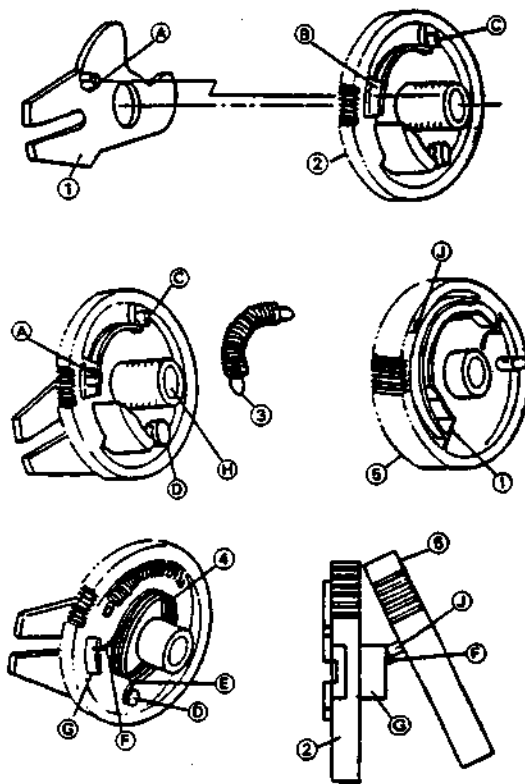

Figure 1-3.
• **Set up of worm wheel assembly (Fig. 1-3)**
1. Put the tab (A) of the drive (1) into the hole (B) of the drive gear (2).
2. Hook both ends of the drive spring (3) onto the tab (A) of the drive arm and tab (C) of the drive gear respectively.
3. hook one end (E) of the drive reciprocating spring (4) onto the tab (D) of the drive gear assembly and mount another end (F) of the drive reciprocating spring onto the tab (G) of the drive gear: this time, hold the end (F) of the drive reciprocating spring by hand.
4. Fit the tab worm wheel gear (5) onto the tag (6) of the drive gear.
5. Using a tapered screwdriver, hook the end (F) of the drive reciprocating spring onto the tab (J) of the worm wheel gear: check that both ends of the drive reciprocating spring have been engaged with the respective tabs of the drive gear assembly.
6. holding the drive gear by hand, turn the worm wheel gear by the other hand counterclockwise. Then tab (C) of the drive gear will be engaged with the hole (I) of the worm wheel gear (5). (The worm wheel gear doesn't tend to rotate reversely but it is likely to slip out of the shaft (H) of the driver gear. To avoid this, hold both the drive gear and worm wheel gear by hand.)